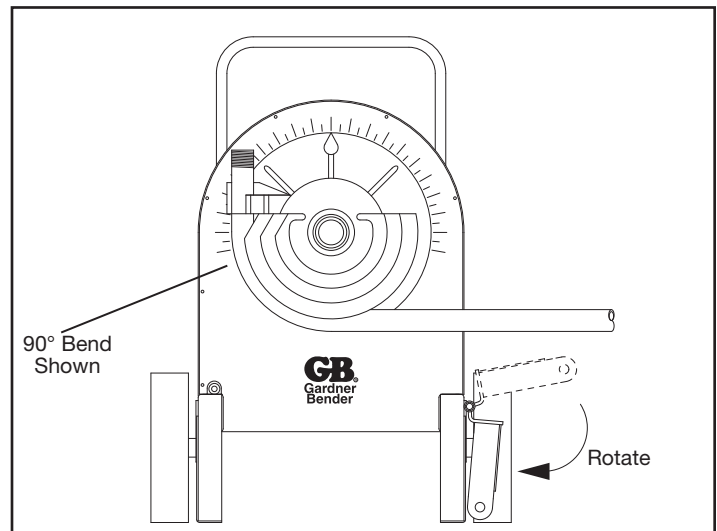

Figure 9
4. Using the remote hand unit ( pendant ), place the "Bend/Unload" switch in the "bend" position. Press the "Jog" button and advance the bender. Be sure to check the alignment of the bending mark as the rotating shoe locks the pipe/conduit into position. Advance the bender shoe to desired degree of bend. When the pointer on the shoe reaches the desired degree of bend, release the "Jog" button and the bender will stop. See Figure 9.
5. To release the pipe/conduit, place the "Bend/Unload" switch in the "Unload" position. Press the "Jog" button and reverse the shoe far enough to release the conduit. Then, rotate the support unit out of the way. See Figure 9. The pipe/conduit can now be removed.